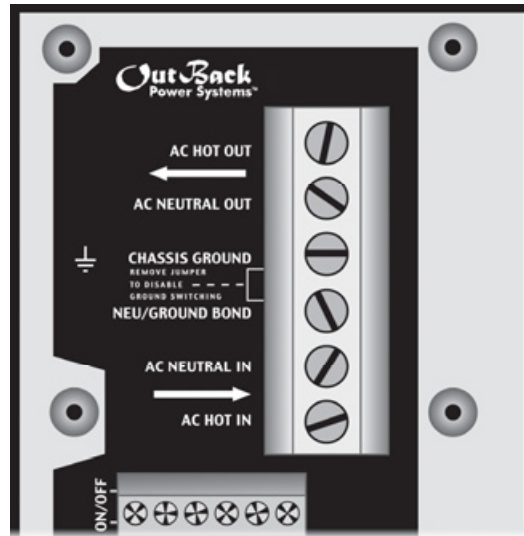

Figure 32 AC Terminals
4. Using a DVM or voltmeter, measure between the AC HOT OUT and AC NEUTRAL OUT terminals. (See Figure 32.) The inverter is working correctly if the AC output reads within 10% of 120 Vac.